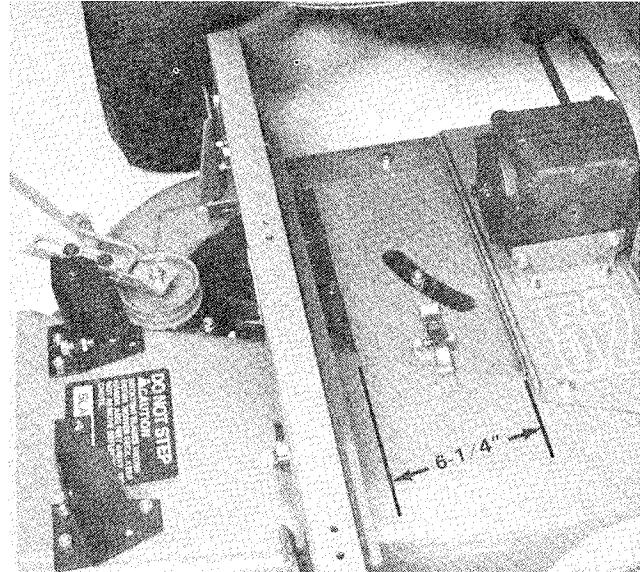

Figure 10
1. Measure  $6\frac{1}{4}"$  from bend in belt cover. Mark dimension and cut off excess material (Fig. 10).